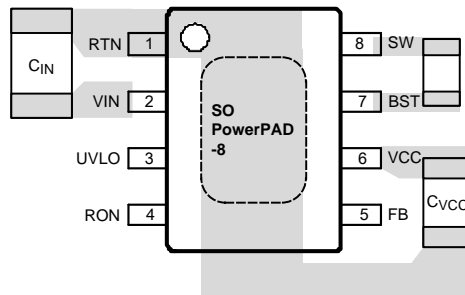

Figure 19. Placement of Bypass Capacitors
1. C_{IN} : The loop consisting of input capacitor (C_{IN}), V_{IN} pin, and RTN pin carries switching currents. Therefore, the input capacitor should be placed close to the IC, directly across V_{IN} and RTN pins and the connections to these two pins should be direct to minimize the loop area. In general it is not possible to accommodate all of input capacitance near the IC. A good practice is to use a $0.1\mu\text{F}$ or $0.47\mu\text{F}$ capacitor directly across the V_{IN} and RTN pins close to the IC, and the remaining bulk capacitor as close as possible (see Figure 19).
2. C_{VCC} and C_{BST} : The V_{CC} and bootstrap (BST) bypass capacitors supply switching currents to the high and low side gate drivers. These two capacitors should also be placed as close to the IC as possible, and the connecting trace length and loop area should be minimized (See Figure 19).